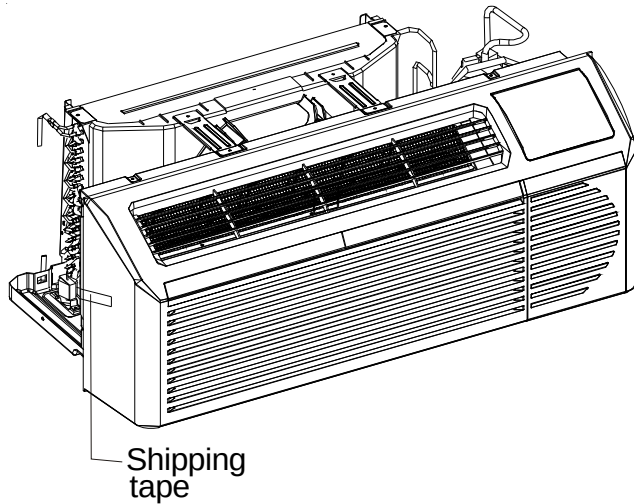

Figure 6
1. Carefully remove the shipping tape from the front panel and vent door. See Figure 6.